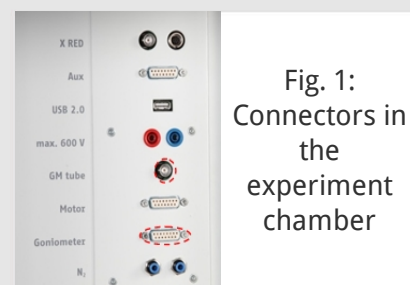

Fig. 1:
- Connect the signal and supply cables to the corresponding ports in the experiment chamber of the X-ray unit. In Figure 1, the port for the signal cable is marked in red and the port for the supply cable is marked in green. Connect the external X RED ports of the x-ray unit (see Fig. 2) to the multi-channel analyser (MCA). Connect the signal cable to the "Input" port and the supply cable to the "X-Ray Energy Det." port of the MCA.